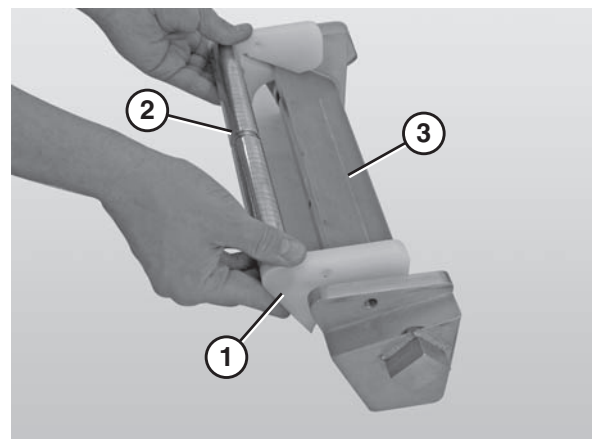

Figure 78
5. Slide the nose bar puck holders (**Figure 78, item 1**) and the nose bar spindle (**Figure 78, item 2**) off of the nose bar weldment (**Figure 78, item 3**).